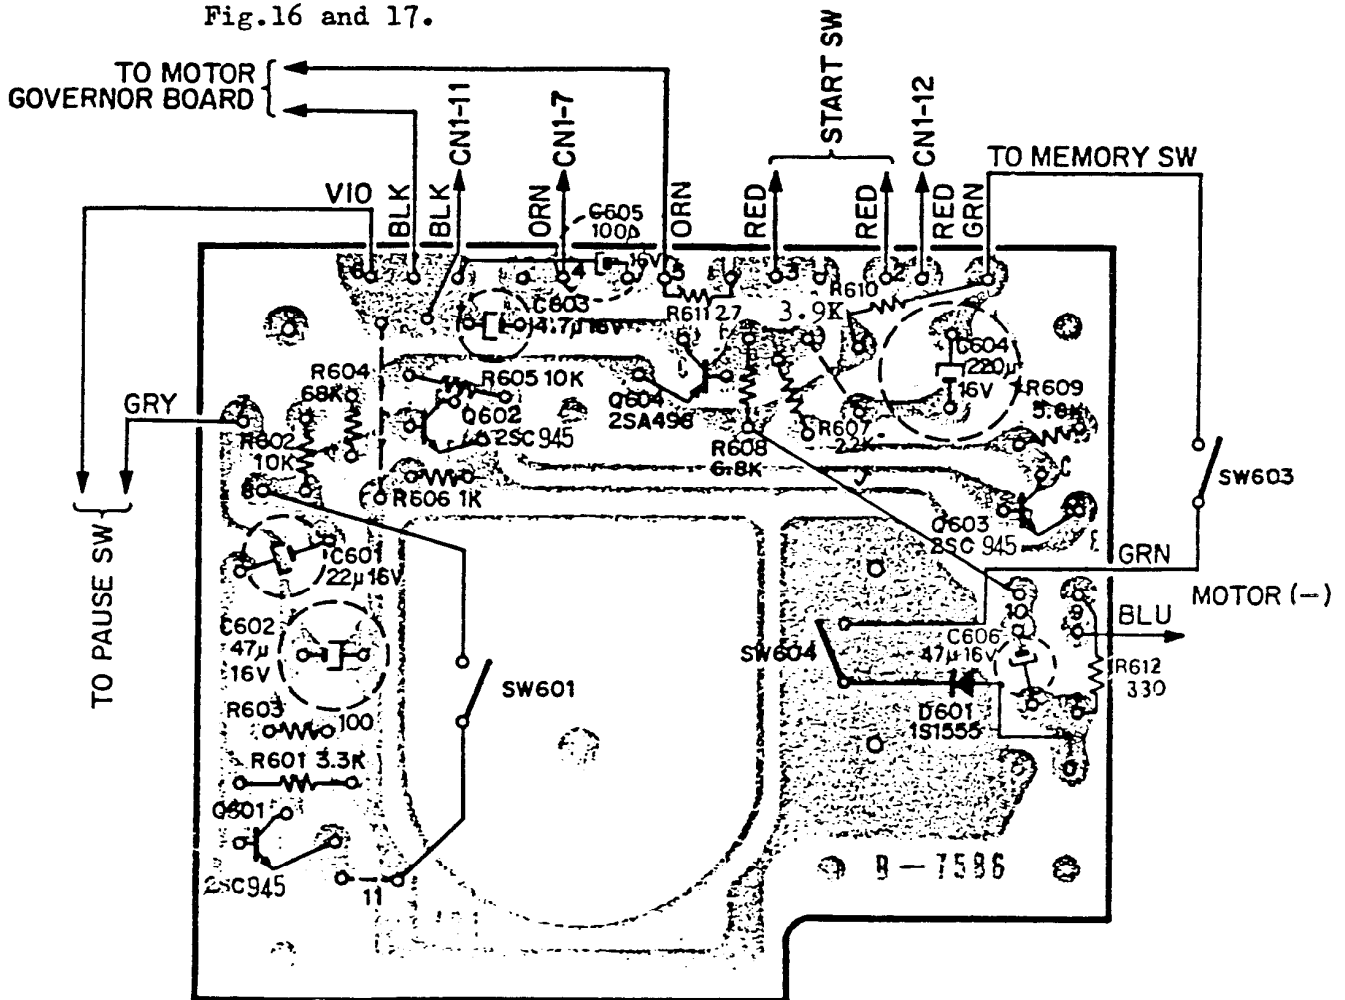

Fig.18 Auto Shut-off Ass'y
- (1) Unsolder signal wires from previous shut-off ass'y, and resolder to the new one (wiring arrangement is the same). Refer to Fig.18.